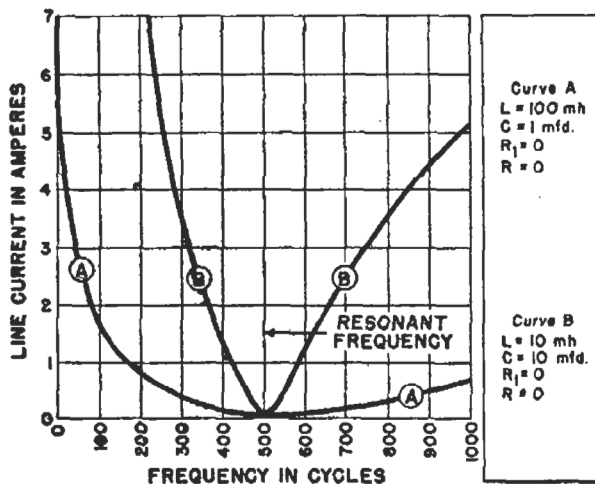

FIG. 11. The effects of variations in frequency on the line current for a parallel resonant circuit are given on this graph for two different  $L-C$  ratios.
**Resonance Curves.** We can draw the same kind of resonance curves for our parallel resonant circuit that we draw for the series circuits by plotting frequency against line current, as in Fig. 11—the entire 110 volts is applied, as  $R$  is reduced to zero. When  $L$  is 100 mh. and  $C$  is 1 mfd., curve A is secured, while when  $L$  is 10 mh. and  $C$  is 10 mfd., curve B is the result. As you can see from these curves,